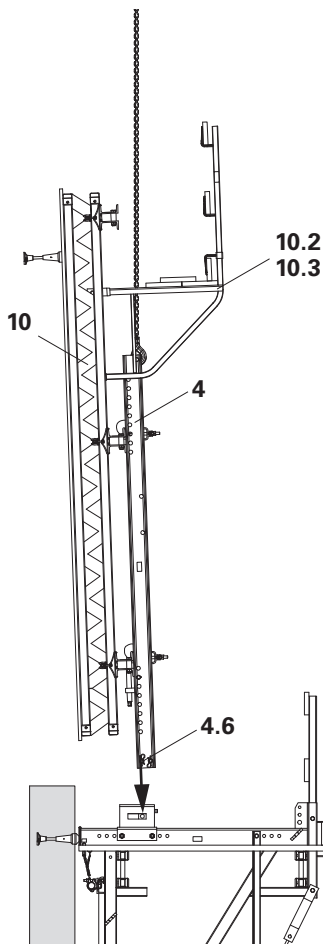

Fig. B2.05b
3. Attach formwork with concreting platform (10) to the strongback (4) and position on the platform. (Fig. B2.05b)